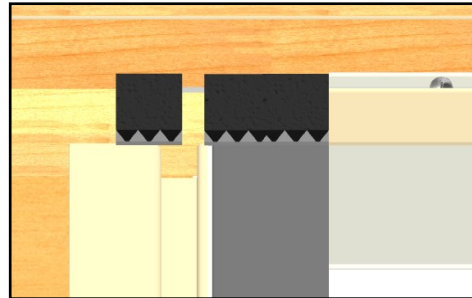

Figure 6
7. Apply the dust covers side by side on the stile extension. (Fig. 6)